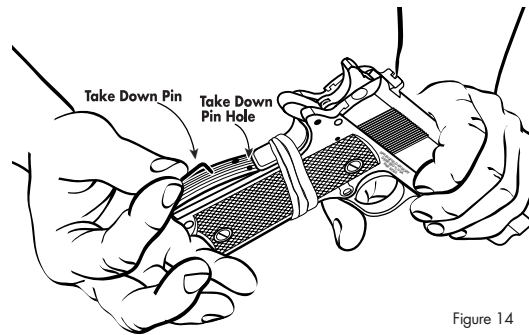

Figure 14
2. Wrap a heavy-duty rubber band around the grip safety until it is completely depressed. Doing so will maintain the alignment of the sear spring and negate further disassembly of the pistol. (Fig. 14)
4. Insert takedown pin into takedown hole. (Fig. 14)